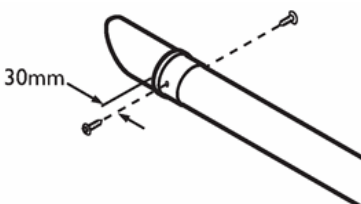

Fig. 21q
19. Mark the female end of the extension at 30mm as shown in two positions, directly opposite each other (Fig. 21q).